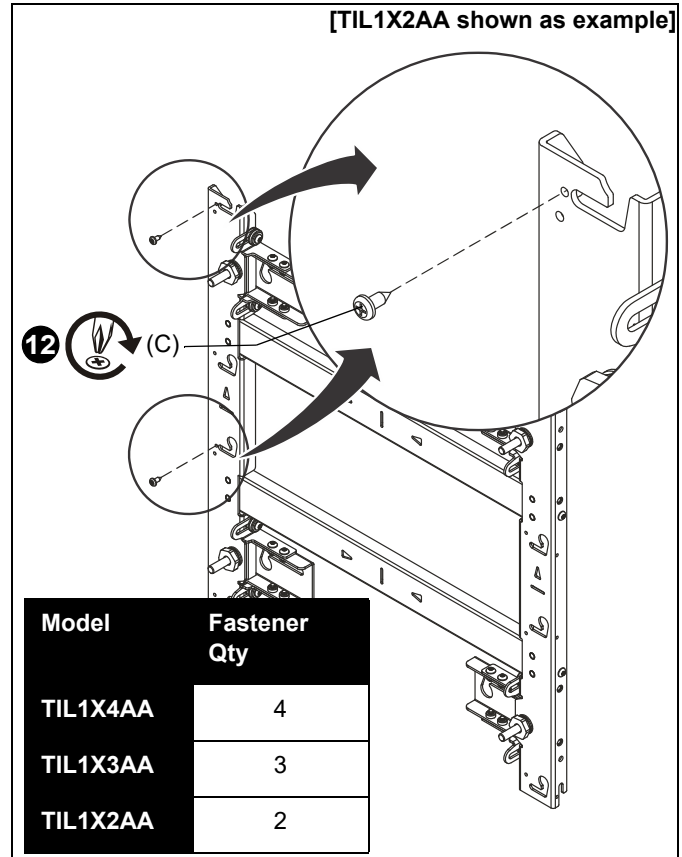

Figure 12
- Install one 8-32 x 1/2" Phillips tapping screw (C) into left upper LED mounting button hole for each LED screen space. (See Figure 12)